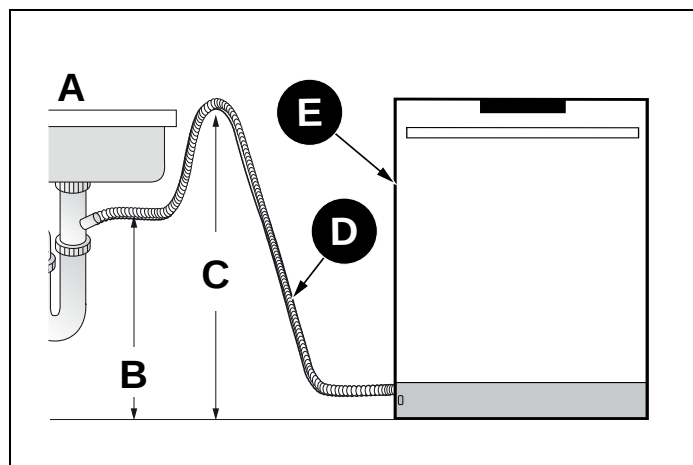

Fig. 18
- 5) If there is no air gap, make sure to suspend the middle of the drain hose well above the sink cabinet base to prevent back flow (see Fig. 18).